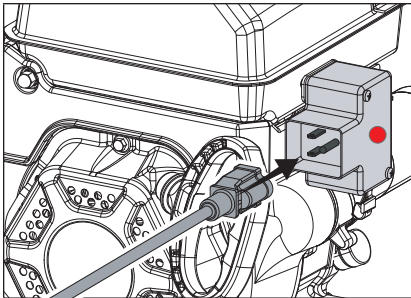

Figure 23
- Alternatively, for electric start, plug in the supplied electrical cord into the starter. Press the electric start button and make sure that the main supply voltage is 120 V~ 60 Hz. (Fig. 23)